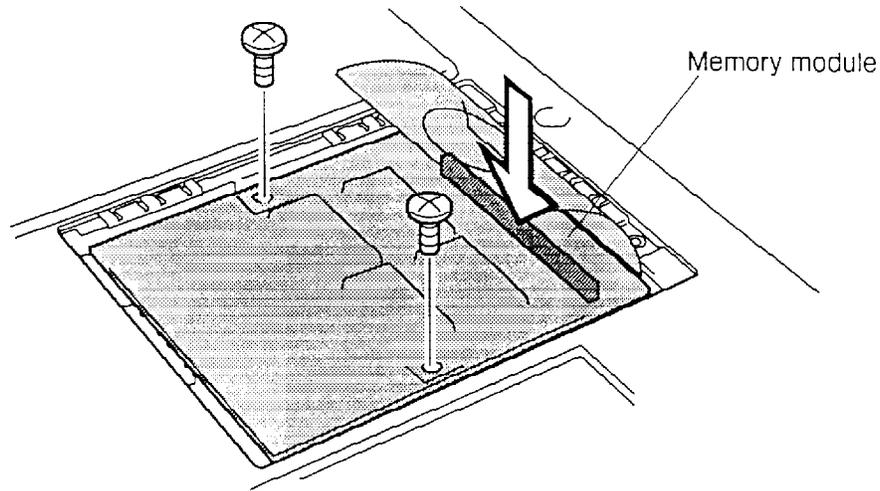

Figure 4-6 Inserting the memory module
1. Position the connector on the bottom of the module over the corresponding connector on the computer (align the holes on the side of the module over the screw holes on the brace). Place your fingers above the connector and press firmly but gently to assure a solid connection. The module should be seated level (figure 4-6).